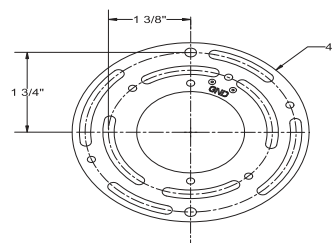

Fig.4 Wiring
3. Remove the mounting screw (B) from the fixture.
5. Connect the input wire to box wires as shown in Fig. 4, making sure that all wire connectors (A) are secured. If your outlet box has a green or bare cooper ground wire ,connect the fixture's ground wire to it . Otherwise, connect the fixture's ground wire directly to the back plate using the GND screw provided. After wires are connected, tuck them carefully inside the junction box.
6. Place the fixture over the mounting plate, and secure it with mounting screw (B).
5. Secure the plate and conversion plate (D) to the mounting ring(C) with assembly screw
6. Connect the input wire to junction box wires as shown in Fig. 4, making sure that all wire connectors (A) are secured. If your outlet box has a green or bare cooper ground wire ,connect the fixture's ground wire to it . Otherwise, connect the fixture's ground wire directly to the back plate using the GND screw provided. After wires are connected, tuck them carefully inside the junction box.
7. Place the fixture over the backplate, and secure it with mounting screw (B).